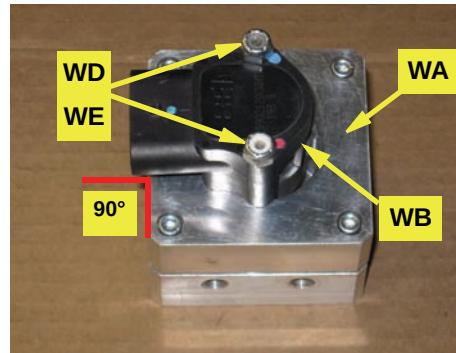

Figure 1a: Prepared WAS housing\connector
- Using the provided hardware **WD** and **WE**, attach the WAS **WB** to the WAS housing **WA**. Install the bolts up through the bottom of the housing. The WAS wire connector **WB** can be mounted 90° to any of the WAS housing sides (Figure 1a).